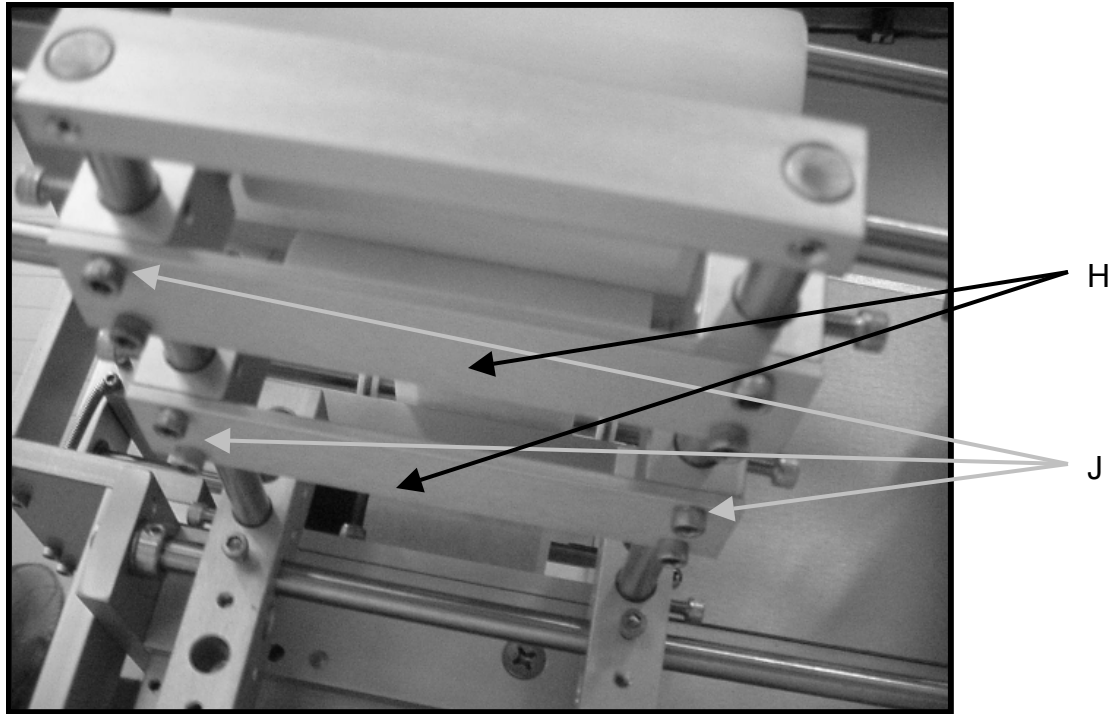

Fig 10
1. Remove the tie bars on the bottom of the carriage assembly (see 'H' Fig. 10).
There are 8 screws as shown in (see 'J' Fig 10).